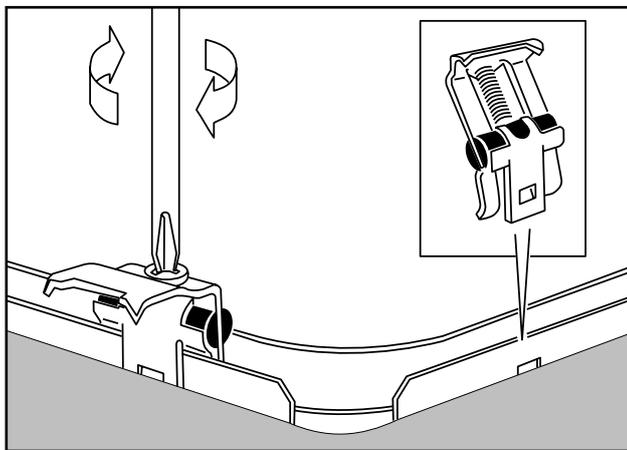

Fig. 3
6. Attach the fixing clips to the sink rail as shown in fig. 3 ensuring that the two 'prongs' of the clip face inwards.